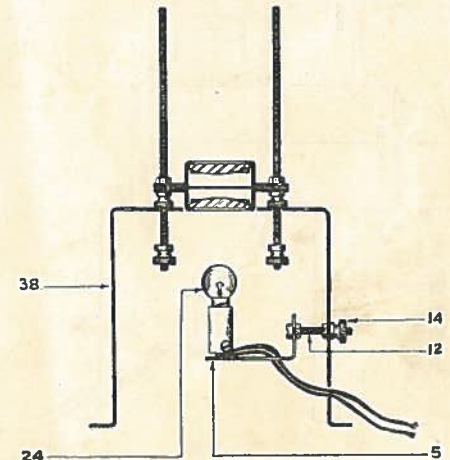

Fig. 23.
3. Now thread the short ends of the length of the Rods in an Instrument Stand (38) and to the ends inside the Stand screw two Terminal Nuts (14) for the distance of a few threads.
4. Complete the Unit by fixing Lampholder (5), Focus Electric Bulb (24) by means of 1in. Screwed Bolt (12). See Fig. 23.